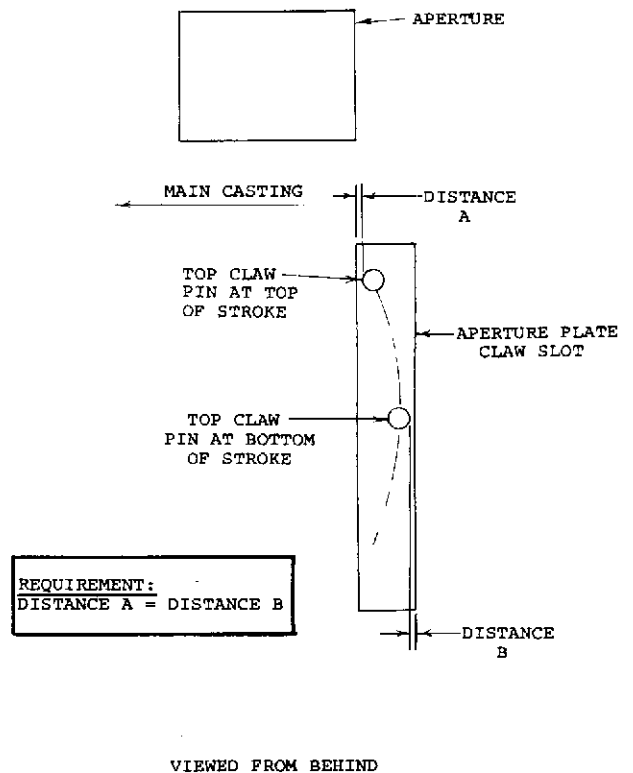
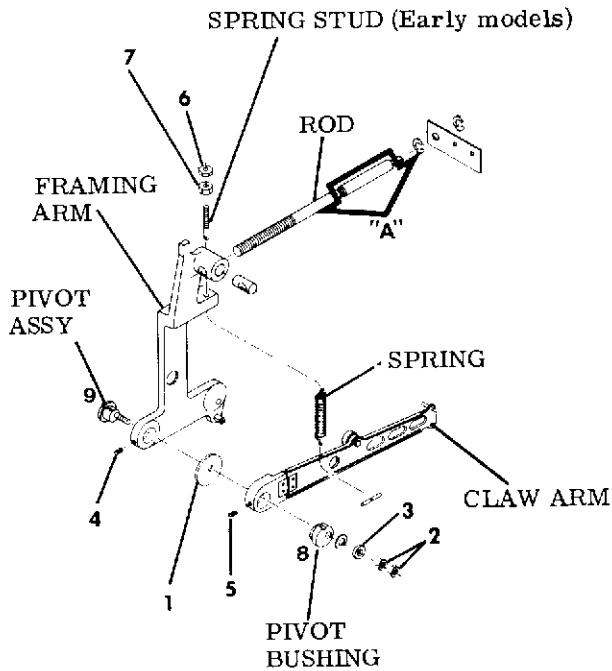
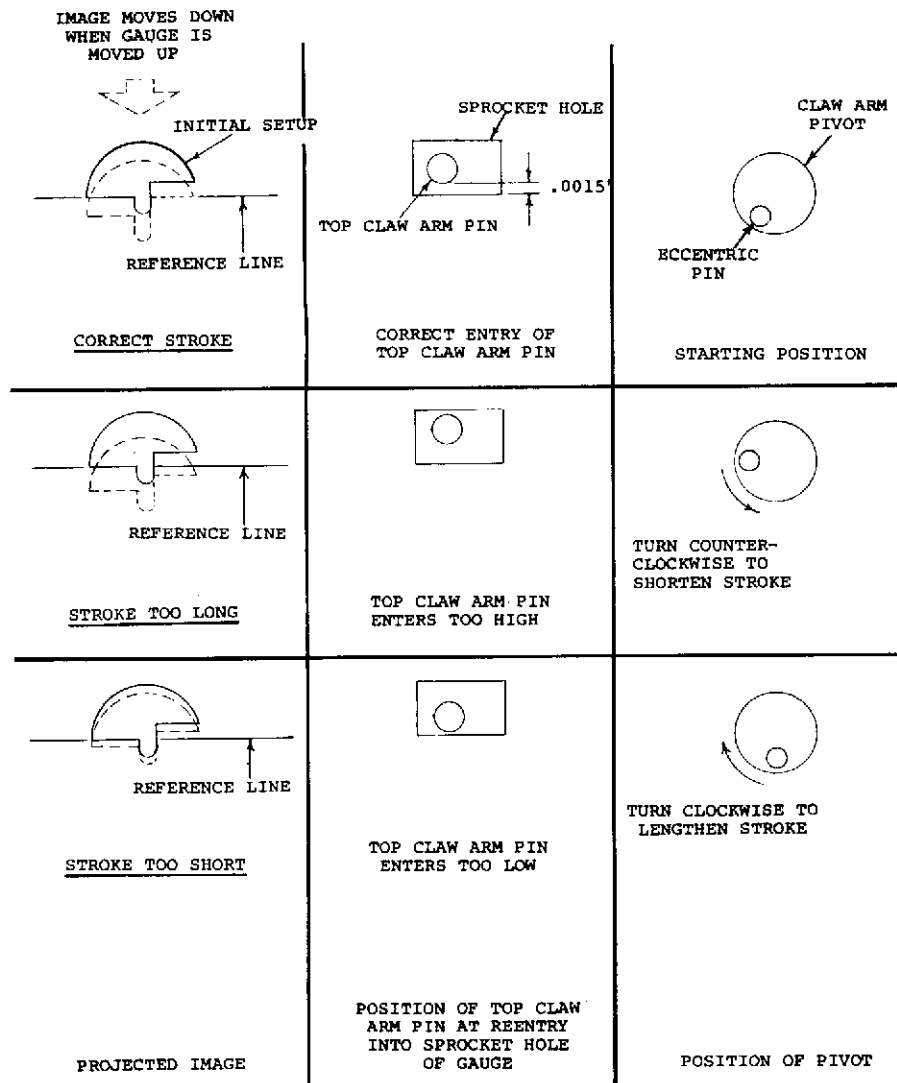

Figure 4-7. SIDE CLEARANCE
Figure 4-8. CLAW ARM
Figure 4-11. CLAW PULL DOWN STROKE ADJUSTMENT
Before attempting any adjustments, manually rotate the inching knob to make sure the Claw Arm Pins do not strike the sides of the Aperture Plate Claw Slot. At the top of the Claw Arm Stroke, the Top Claw Arm Pin will be nearer the inside edge of the Aperture Plate Slot (Figure 4-7). At the bottom of its travel, this Pin will be nearer to the outside edge of the Aperture Plate Slot. Loosen Screw (5) and adjust Bushing (8) (Figure 4-8) so these two distances are equal. (Removing Lamphouse Cover and viewing Pins from behind the Aperture Plate aids in this adjustment.)
- m. Tighten Screws (1) and (2) to 140-inch/ounces of torque (very tight) and replace Screw (3) and tighten securely.
2. Claw Pull Down Stroke and Side Clearance (Figures 4-7 / 4-11) These Two Adjustments are interdependent and must be adjusted at the same time. If either one is adjusted, the other must be checked and adjusted as necessary until requirements for both can be met.
A good starting position for the Pivot (9) (Figure 4-8) places its Eccentric Pin at about 7 O'Clock when viewed from front of Projector (See Figure 4-11). The notch in Bushing (8) (Figure 4-8) should be slightly below the notch in Pivot (9) so an imaginary line drawn across the top of Bushing notch lines up with bottom of Pivot notch.
holes of film. When Framing is correct, the Top Claw Arm Pin should be the same distance from the inside edge of the sprocket hole at the top of its stroke as it is from the outside edge of the sprocket hole at the bottom of its stroke (Figure 4-7). Loosen Screw (5) and adjust Bushing (8) (Figure 4-8) so these two distances are equal. Remove film from Projector after proper Framing and Side Clearance are established.
- h. Adjust by placing Shuttle Cam Adjusting Tool (ST-5884) on Claw Arm Pivot (9) (Figure 4-8), loosening Screws (4) and (5) and rotating Pivot (9) and Bushing (8) the same amount in the same direction simultaneously. Turn counterclockwise (as viewed from front of projector) to shorten stroke and clockwise to lengthen stroke. (Figure 4-11)
The Top Claw Arm Pin should be the same distance from the inside edge of the Gauge sprocket hole at the top of its stroke as it is from the outside edge of the Gauge sprocket hole at the bottom of its stroke (Figure 4-7).
Loosen Screw (5) and adjust Bushing (8) (Figure 4-8) So these two distances are equal.
(Figures 4-7 thru 4-11)
A good starting position for the Pivot (9) (Figure 8) places its Eccentric Pin at about 7 O'Clock when viewed from front of Projector (See Figure 4-11). The notch
in Bushing (8) (Fig. 4-8) should be slightly below the notch in Pivot (9) so an imaginary line drawn across the top of Bushing notch lines up with bottom of Pivot notch.
Before attempting any adjustments, manually rotate the inching knob to make sure the Claw Arm Pins do not strike the sides of the Aperture Plate Claw Slot. At the top of the Claw Arm Stroke the Top Claw Arm Pin will be nearer the inside edge of the Aperture Plate Slot (Figure 4-7). At the bottom of its travel, this Pin will be nearer to the outside edge of the Aperture Plate Slot. Loosen Screw (5) and adjust Bushing (8) (Figure 4-8) so these two Distances are equal. (Removing Lamphouse Cover and viewing Pins from behind the Aperture Plate aids in this adjustment.)
- a. Thread an old film in the Projector (do not use a good film for this adjustment) and adjust Framing Knob to eliminate any frame lines at top or bottom of projected image with the Projector running in Forward. If excessive noise results when framing knob is moved, stop machine and check location of Claw Arm Pins in sprocket holes of film. When framing is correct, the Top Claw Arm Pin should be the same distance from the inside edge of the sprocket hole at the top of its stroke as it is from the outside edge of the sprocket hole at the bottom of its stroke (Figure 4-7). Loosen Screw (5) and adjust Bushing (8) (Figure 4-8) so these two distances are equal. Remove film from Projector after proper Framing and Side Clearance are established.
- k. Adjust by placing Shuttle Cam Adjusting Tool (ST-5884) on Claw Arm Pivot (9) (Figure 4-8), loosen - ing Screws (4) and (5) and rotating Pivot (9) and Bushing (8) the same amount in the same direction simultaneously. Turn counter-clockwise (as viewed from front of projector) to shorten stroke
and clockwise to lengthen stroke. (Figure 4-11).
The Top Claw Arm Pin should be the same distance from the inside edge of the Gauge sprocket hole at the top of its stroke as it is from the outside edge of the Gauge sprocket hole at the bottom of its stroke (Figure 4-7). Loosen Screw (5) and adjust Bushing (8) (Figure 4-8) So these two distances are equal.